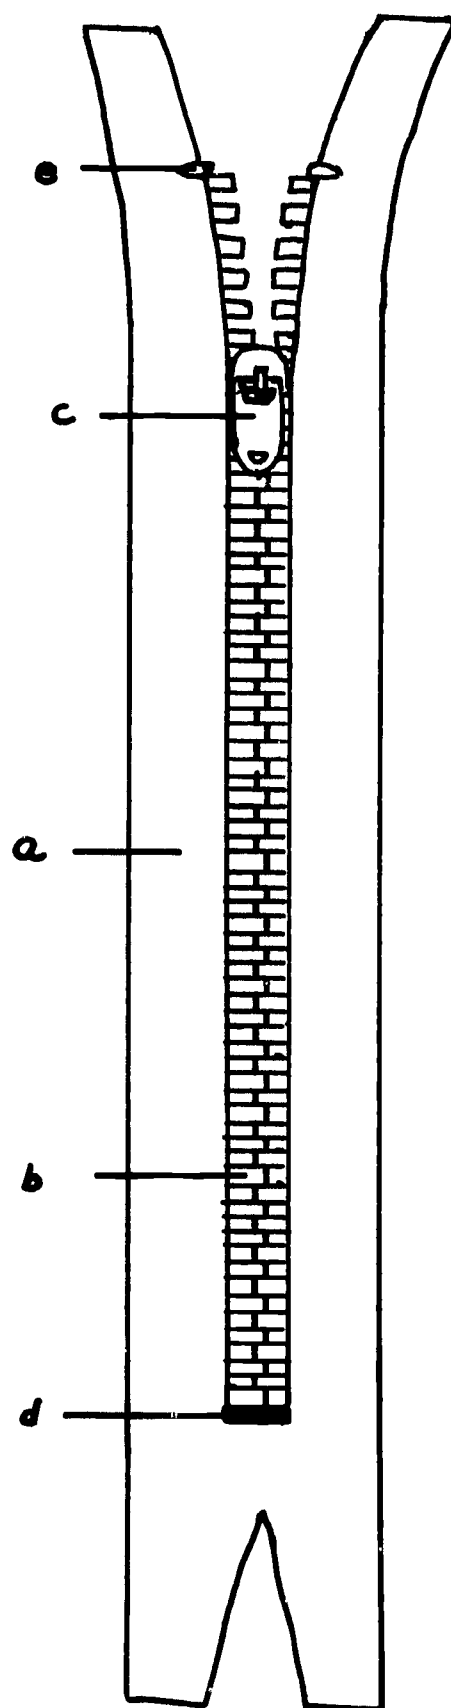

Figure 89.
5. Identify the five parts of the zipper indicated in the drawing on the right (Figure 89).